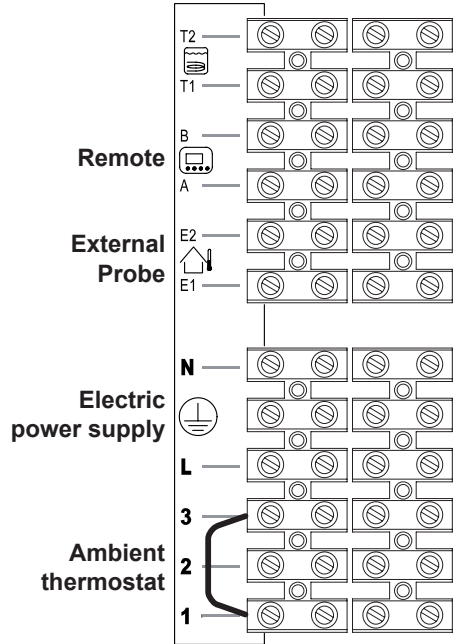
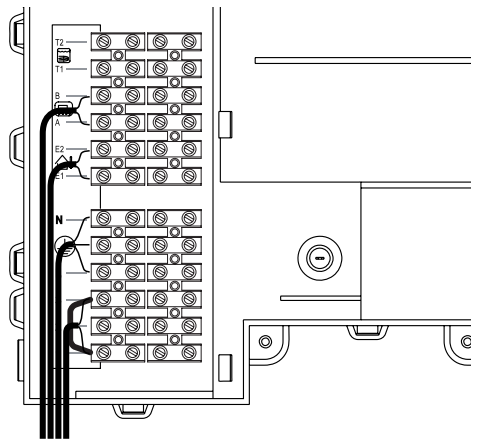
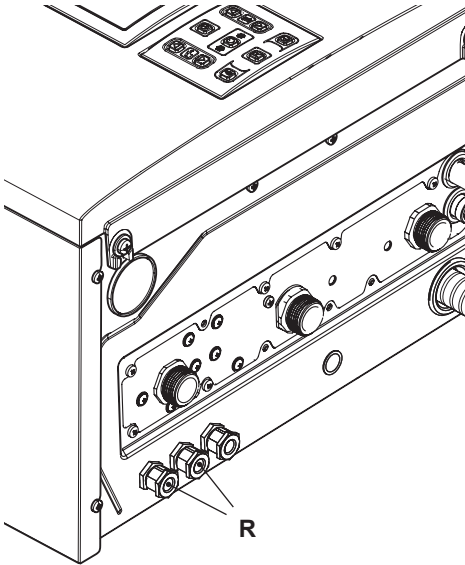

Fig. 6.16
Fig. 6.17
Fig. 6.18
- Connect the electric power supply cable coming from the fused spur isolation switch to the power supply terminal block of the boiler Fig. 6.16 keeping the same connections for the live (brown wire) and the neutral (blue wire). External 3A fuse or fused plug with same current rating is recommended.
The route of the boiler and ambient thermostat's electric power supply cable or wires must follow the route indicated in Fig. 6.17.
Allow the cables to exit the boiler by using the relevant cable clamps R (Fig. 6.18).
Use the clamps indicated in Fig. 6.16 to connect the ambient thermostat.
Use the ambient thermostat's clamps indicated in Fig. 6.16 and Fig. 6.17. to connect the zone valve. Insert the electric cables of the zone valve's micro switch contacts in clamps "1 and 3" of the ambient thermostat's terminal block as in Fig. 6.17.
The route of the boiler and ambient thermostat's electric power supply cable or wires must follow the route indicated in Fig. 6.17. Allow the cables to exit the boiler by using the relevant cable clamps R (Fig. 6.18).
The route of the remote control cable must follow the route indicated in Fig. 6.17. Allow the cables to exit the boiler by using the relevant cable clamps R (Fig. 6.18).